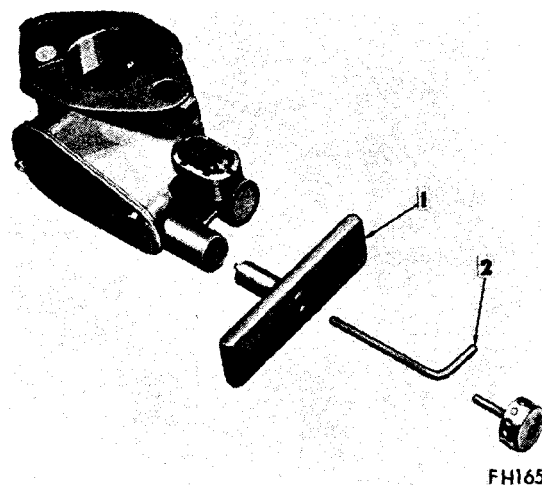

Figure 48 — King-Seeley Adjusting Wrenches
If the governor is too sensitive or has a tendency to surge, place the hollow wrench (1) in position on the calibrating nut (11), and insert the special adjusting wrench (2) through the hollow wrench into the adjusting screw and turn the screw clockwise one turn (Figure 48).
The stock numbers of the special wrenches (Figure 48) are as follows: